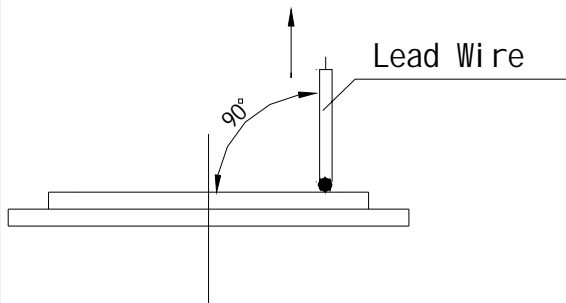

Fig.1 Direction of Lead Wire
b) Wire to be soldered on ceramic at the edge&should be pulled up at 90° The element should be hold on bottom and wire should be pulled up .It should withstand at least for 388g force(Fig.1)